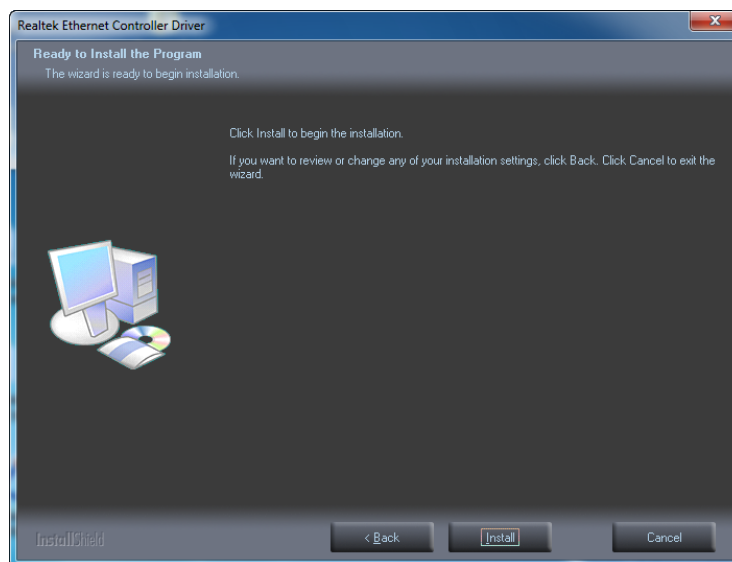

Figure 8-27: LAN Driver Ready to Install Screen
Step 6: The **Ready to Install the Program** Screen in **Figure 8-27** appears.